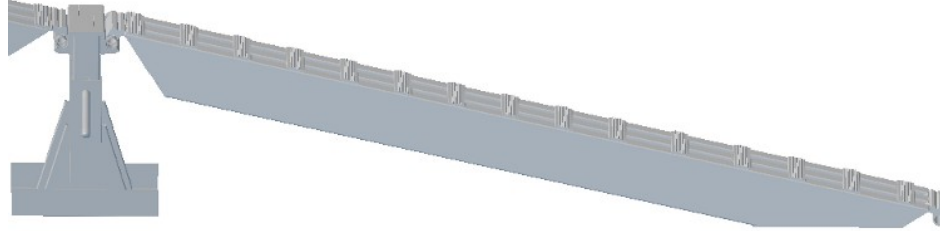

Figure 11 – Side View of 8' Lower Ramp Section, in place between ramp stand and ground
- 7) Now that the upper ramp section is in place, insert one (1) 38-1/4"-long retaining rod through the 1-1/4"-wide circular tube slot on the outside edge of each trailer receiver, and through the ramp's adaptor attachment resting in the cradle, securing the rod's other end with a key pin. Then, in similar fashion, take one (1) 25"-long retaining rod and insert it through the circular tube slot on the outside edge of each ramp stand receiver, again securing with a key pin.
- 8) Place the short-miter end of each 8' lower ramp section into the curved cradle receiver on the other side of each ramp stand, and allow the long-miter end of each ramp to rest on the ground, as shown in Fig. 11: